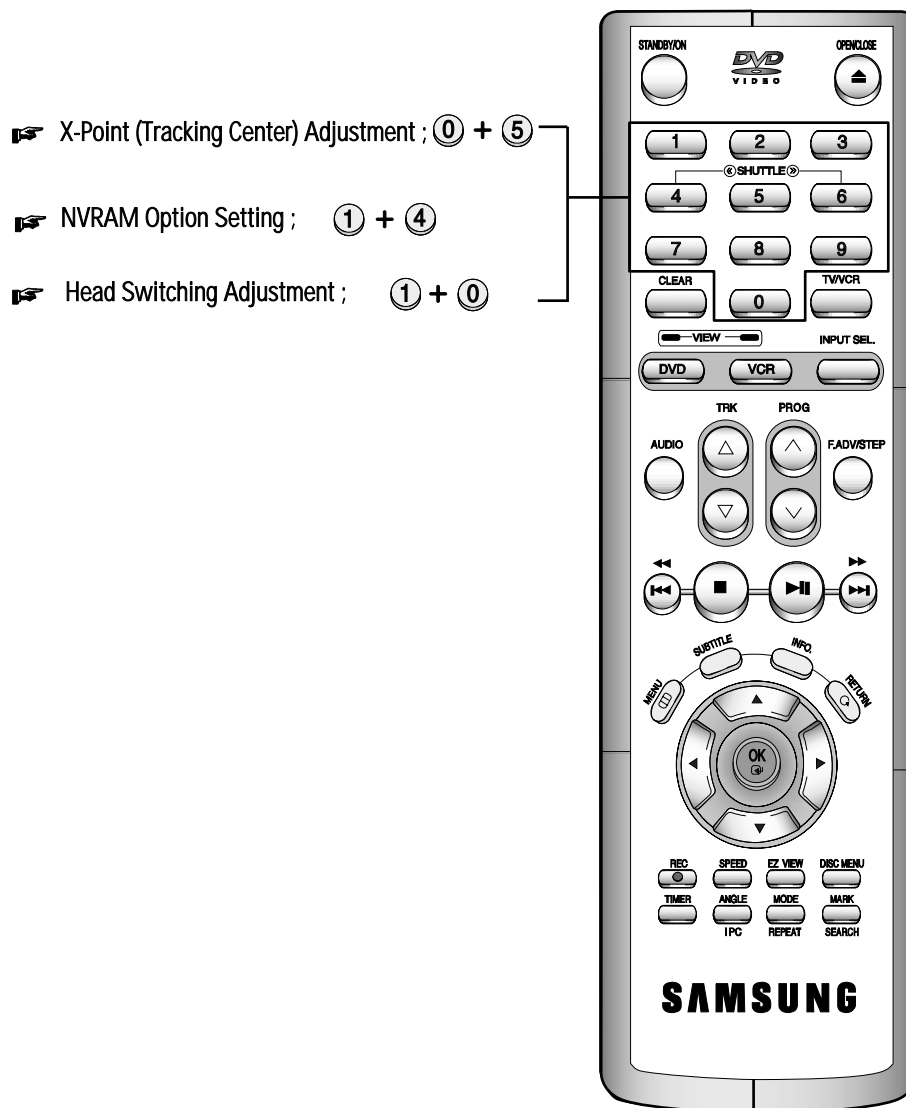

Fig. 3-1
- 3) Press the “1, 0” buttons; remote control adjustment operates automatically. (See Fig. 3-1)